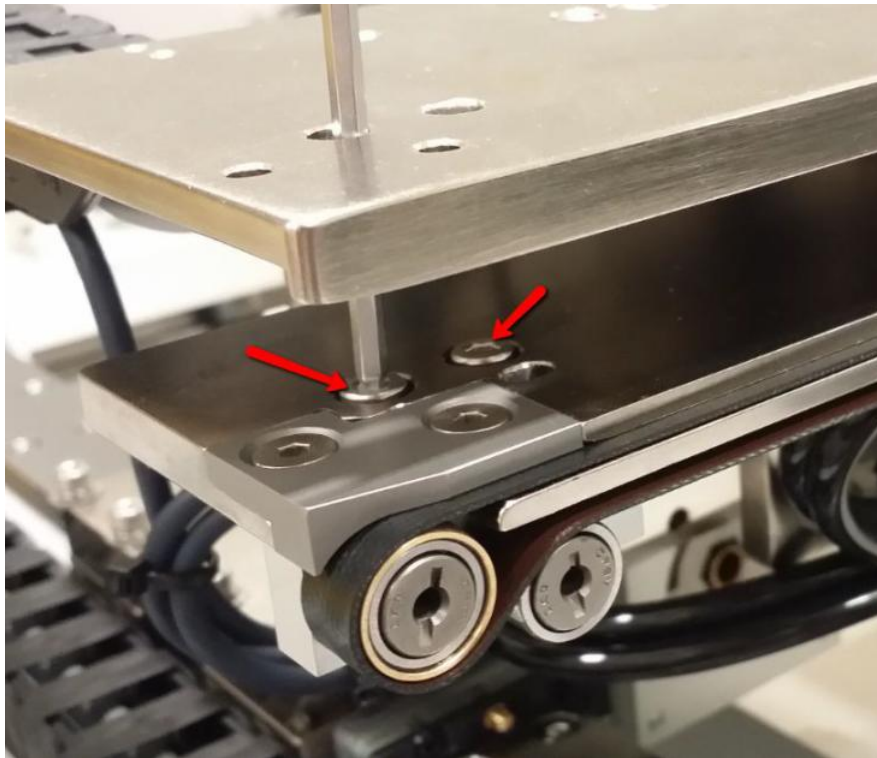

Figure 45 End Pulley Assembly
- e) Slightly loosen End Pulley assembly as below Figure 45